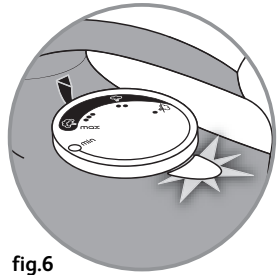

fig.6
- The thermostat light comes on (fig.6). It will go out when the soleplate is hot enough.